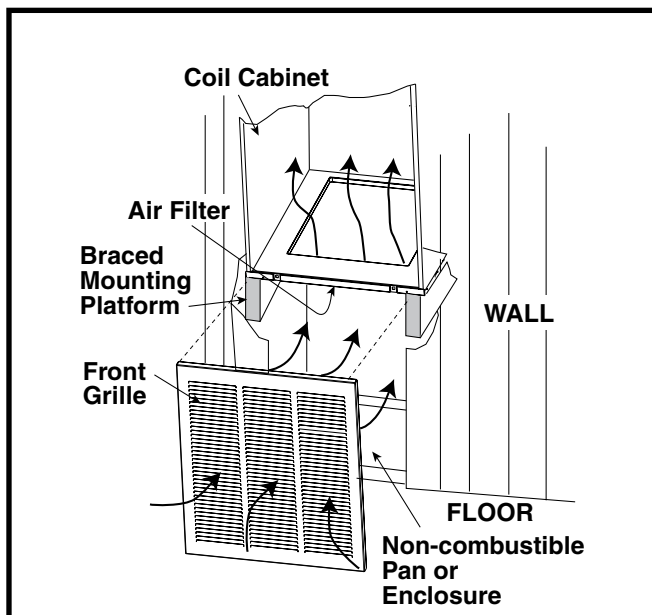

Figure 15. Over-the-Floor Return Air System
1. If floor underneath furnace is made of combustible material, locate a pan fabricated of non-combustible material with 1" upturned flanges under furnace return air opening. See Figure 15 \(page 12\).
7. Install return air grille in closet preferably at same level as upflow stand or below mounting platform. See Figure 15.